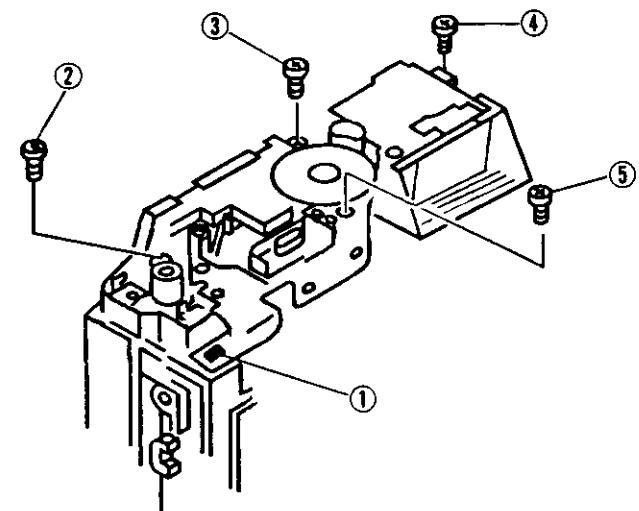

Fig. 5
- (3) Remove the soldering portion shown in Fig. 5, No. 1.
- (4) Take off two Screws (P. 28 No. 43) and Remove the Holder plate (P. 28 No. 49)
- (5) Remove the Winding signal. (P. 28 No. 26)
- (6) Take off four Screws (Fig. 5, No. 2, 3, 4, 5)
- (7) Remove the Viewfinder Unit and the Winding signal roller ass'y (P. 28 No. 32)